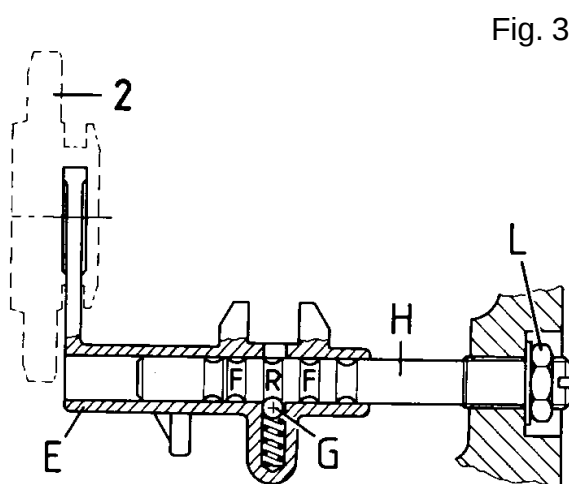

Fig. 3
- Position fork **E** (fig. 3) on the rod so that ball **G** is in position **R**;